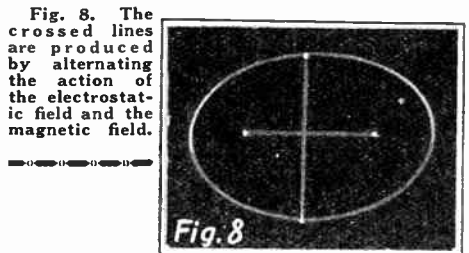
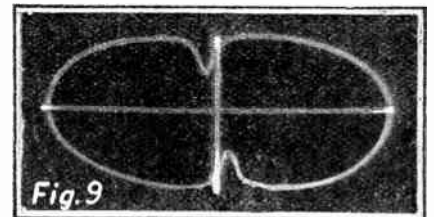

Fig. 8. The crossed lines are produced by alternating the action of the electrostatic field and the magnetic field.
Fig. 9
Hydrogen is passed down through the funnel, reduces a deposit of copper oxide which has been formed upon the crucible. Fig. 8 shows how to hold two bottles for pouring hydrogen up into a bottle of air, and Fig. 9 shows the arrangement for producing the singing flame; if properly conducted a small flame will produce an almost intolerable noise.
Hydrogen is 1/14.14 times the Sp. Gr. of air, therefore it will readily displace air from a vessel by pouring the gas upward into a bottle filled with air, as shown in Fig. 8. Jar (A) is filled with air and jar (B) with hydrogen. When the necks of the two bottles are brought together, as in the illustration, the hydrogen, on account of its low density, will displace the air from bottle (B). If a lighted taper is inserted into each of the bottles, a slight explosion will occur in bottle (A), and nothing will happen in the other. This lightness gives it a great lifting power and, for this reason, it is used in balloons and dirigibles.
A very interesting, but peculiar, phenomenon of hydrogen is the singing flame (Fig. 9). Dry hydrogen gas from a generator is lit and a large glass tube is placed over the flame. A singing noise is produced by the
plate in its original position, and allowing sufficient time for exposure a picture like a figure 8 will be obtained. The extreme possibility is that with phases at 45 degrees apart, when a straight line appears in place of the ellipse, the line being inclined at 45 degrees.
Perfect alternating currents are hardly ever produced by dynamos and the oscillograph is an excellent means to analyze the output. Fig. 9 shows a performance with superposed strong oscillations of the third harmonic coupled to the fundamental oscillation, whilst the egg-shape in Fig. 10 is caused by a harmonic oscillation of double frequency.
Fig. 9 shows the curve of an alternating current with a strong third harmonic. Fig. 10, the egg-shaped curve results from a second harmonic in an alternating current.